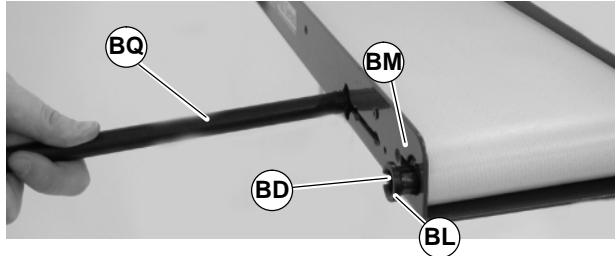

Figure 50
IMPORTANT: Do not hit retaining sleeve (BD of Figure 50) with hammer or any other tool when installing. Inspect frame bore for damage or out of roundness if retaining sleeve does not slide easily into place. Frames with worn holes should be replaced.
4. Insert retaining sleeve (BD of Figure 50) into pulley. Push in until inside surface of retaining sleeve shoulder (BL) touches outside of frame (BM). Do not push shoulder of retaining sleeve into frame opening.